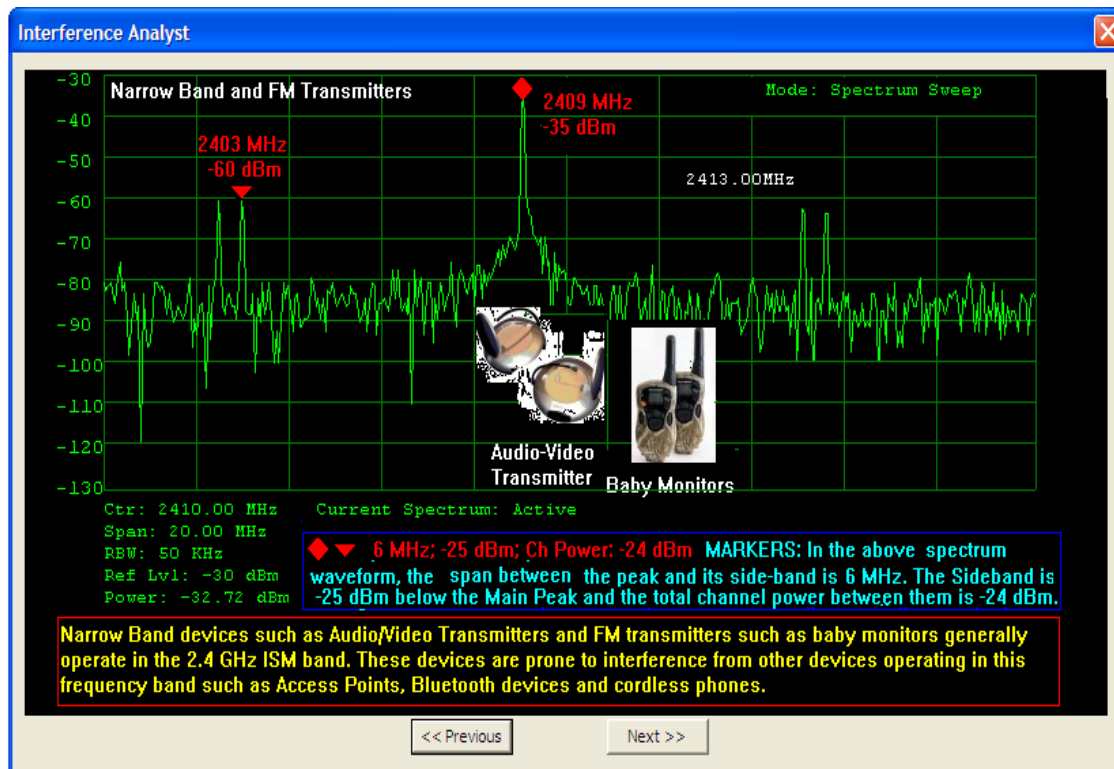

Figure 8. Interference Analyst Window
**Interference Analyst:** The Interference Analyst is very useful tool for users. Pressing this button displays an assortment of various waveforms of most commonly used digital modulation and transmission techniques in the 2.4 GHz and 5.8 GHz frequency bands, as seen in Figure 8 below.